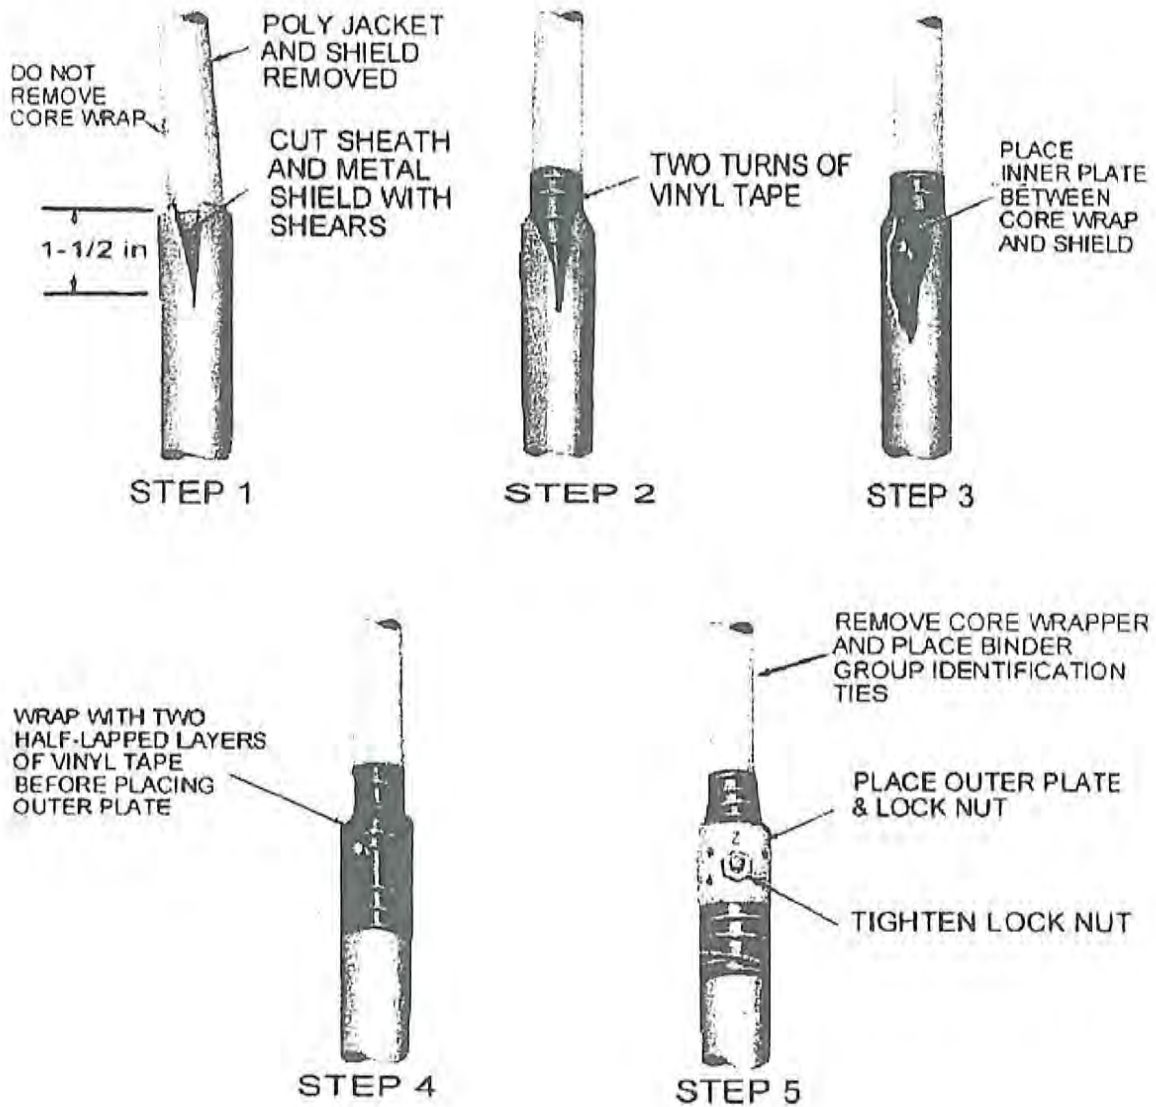
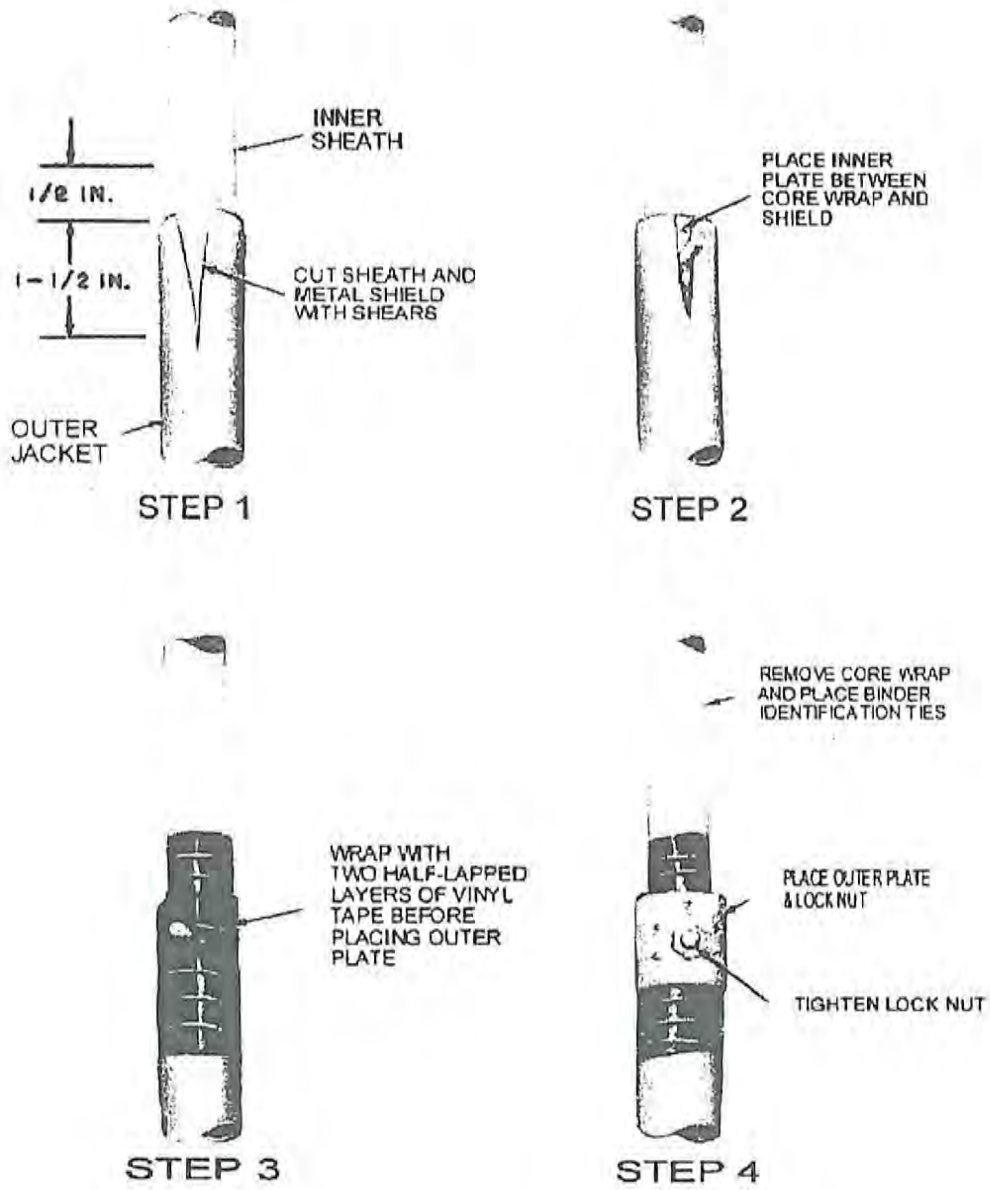

Figure 6 - Installing B Bond Clamp - Single Sheath Cable
Figure 7 - Installing B Bond Clamp - Dual-Sheathed Cable
3.02 All sizes of the B, Mini B, and Canadian Mini bond clamps use the same procedures for installation. The installation procedures will be illustrated with a B bond clamp (Figures 6 and 7).
3.04 Using shears make a 1-1/2 inch long axial cut in the outer jacket and shield. Place two turns of vinyl tape over the core wrap adjacent to the cut in the sheath (Figure 6). For dual-sheath cable, remove 1/2 inch length of outer sheath prior to making 1-1/2 inch cut in outer jacket and shield (Figure 7).